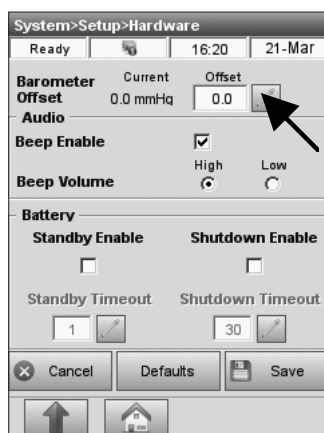

Fig. 3-82 Barometric pressure
3. Press  to enter an offset from the true barometric pressure (Fig. 3-82).